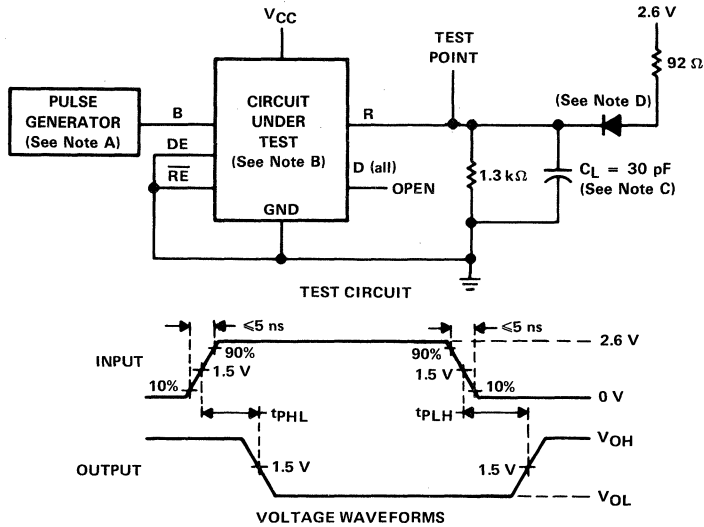

FIGURE 1. PROPAGATION DELAY TIMES FROM BUS TO RECEIVER OUTPUT
- NOTES: A. The pulse generator in Figures 1 and 2 has the following characteristics: PRR \leq 10 MHz, duty cycle = 50%, $Z_0 \approx 50 \Omega$.